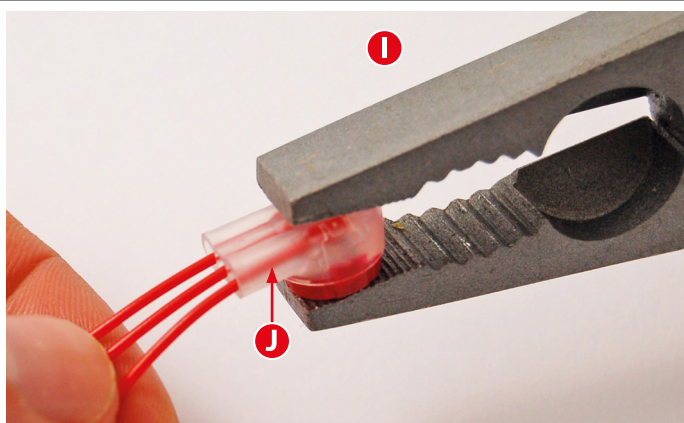

Fig. 14
11. Once the three **red** wires are in position use a pair of pliers, **Fig.14, I** and place them over the **red** cap of the **Scotchlok™** 3 way butt connector and the transparent side and apply pressure to crimp the wires into place, as shown in **Fig.14, I**.